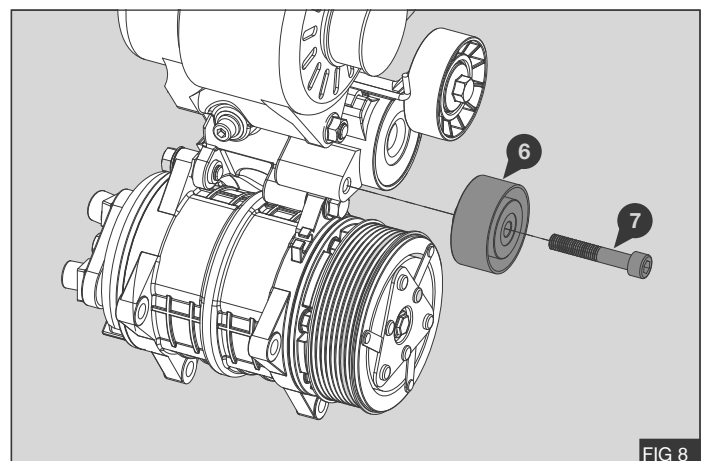

FIG 8
1. Secure the idle pulley (4) to the bracket (1) using bolt (7) - Fig 8
2. Torque bolt (7) to 58 Nm / 43lbf.